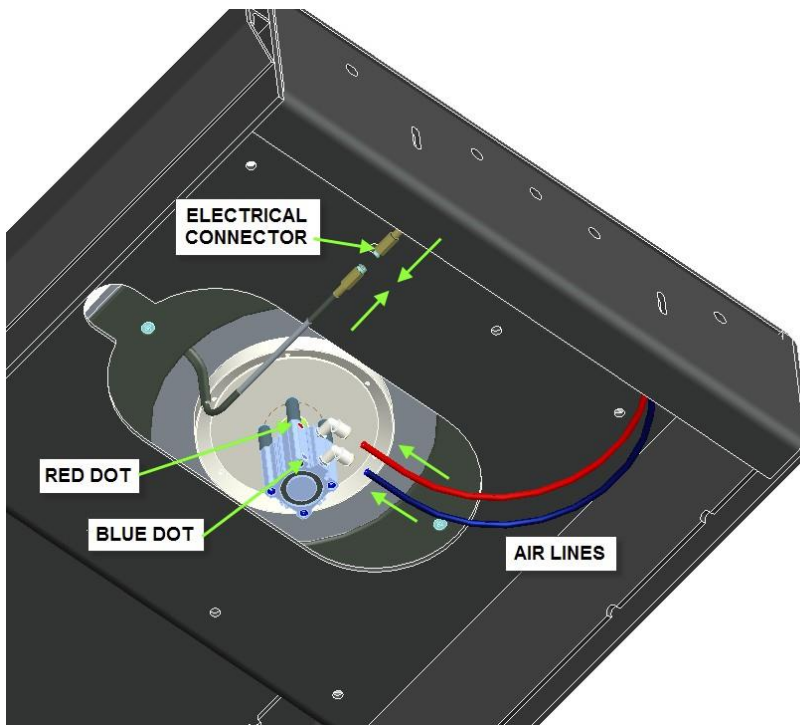

Figure 33 - Turn plates Air Lines Connection
4. Connect free ends of front air lines to the turn plate locking cylinder: blue airline to the cylinder port marked with a blue dot and red airline to the cylinder port marked with a red dot [Figure 33 shown below].